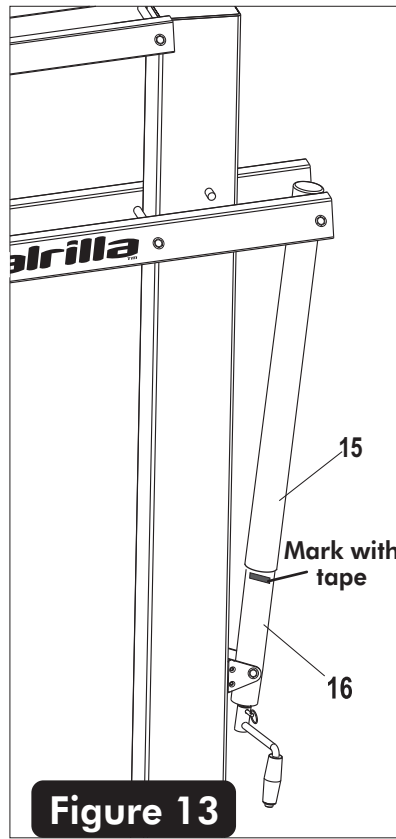

Figure 13
22. Using tape - mark the side of the steel actuator (#16) just under the plastic actuator sleeve (#15) at this 10 ft rim height. See **Figure 13**.